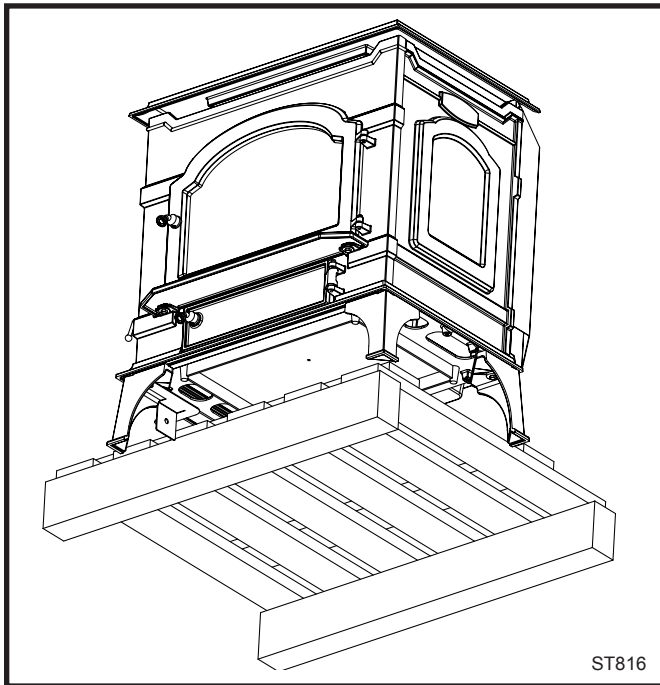

Fig. 26 Reposition stove so one rear leg can be attached.
4. In the hardware bag, locate the four legs, the door handle insert holder, (on this leg only, the door handle insert holder is used along with a washer), (4) 3/8-16 x 1" leg bolts and four (4) washers.
7. Reposition the stove so the first rear leg can be attached. Attach the leg using the procedure described in Step 6. (Fig. 26)
9. Remove the (4) 1/4-20 x 3/8" hex head bolts from the mounting bosses and attach the bottom heat shield using the same bolts.